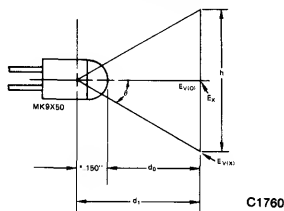

Fig. 12. Lamp to Legend Mechanical Relationship
1. Edge of legend to center of legend illuminance ratio ($E_v(x)/E_v(0)$) (Figure 12.)